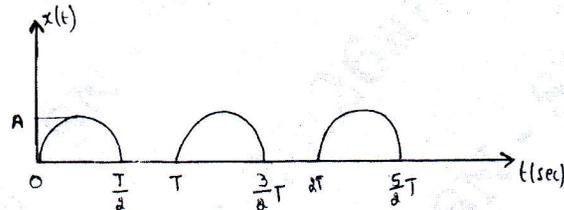

Fig.Q2(b)
b. Find the Fourier series expansion for the impact force generated by the forging hammer shown in Fig.Q2(b).